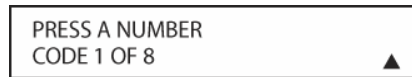

Figure 42
7. The next step is important, as it determines which codes will operate the source device or display. Point the AVR remote at the device being programmed and, following the instructions shown in the remote’s LCD **Information Display [oval 3]**, press and release the **Alphanumeric Keys [oval 46]** shown on the menu screen (**Figure 42**) one at a time, starting with the “1” button. After you press the “1” **Button [oval 46]**, the remote’s LCD screen will briefly go blank as the code is being transmitted, but you will see the “transmit” icon in the upper right corner of the display to serve as confirmation that the remote is sending out commands.